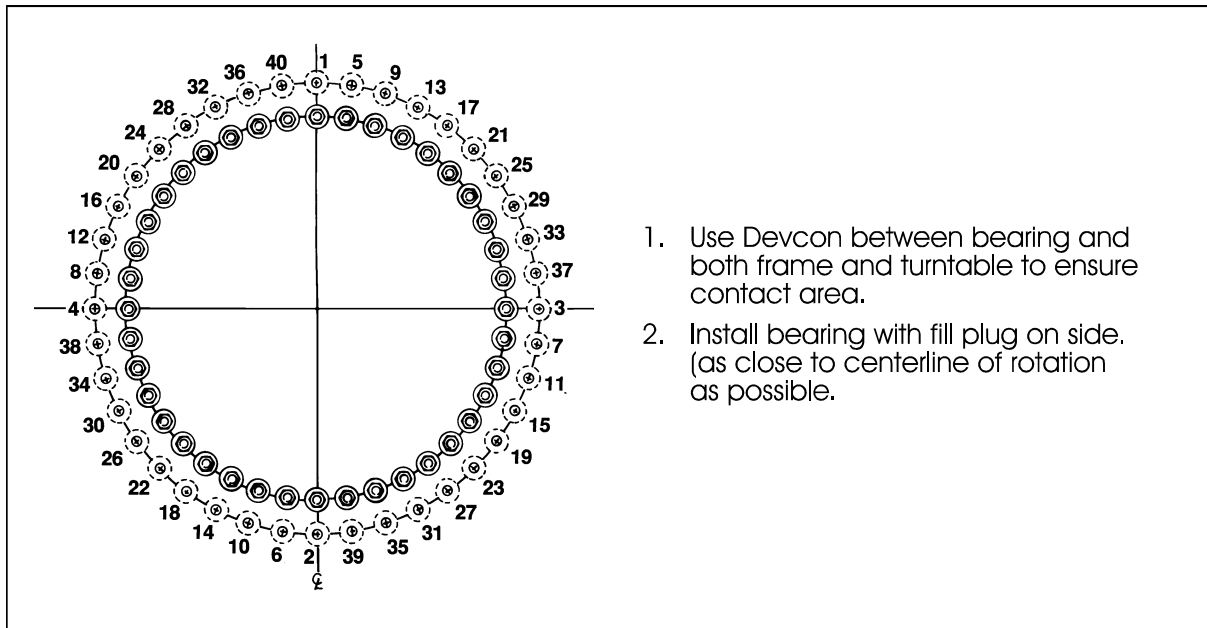

Figure 2-18. Swing Bearing Bolt Torquing Sequence
- c. Following the Torque Sequence diagram shown in Figure 2-18., tighten the bolts to an initial torque of 177 Nm (130 ft. lb.). Then following the same sequence tighten the bolts to a final torque of 230 Nm (170 ft. lb.) wet.
3. See Figure 2-18. for swing bearing bolt torquing sequence.